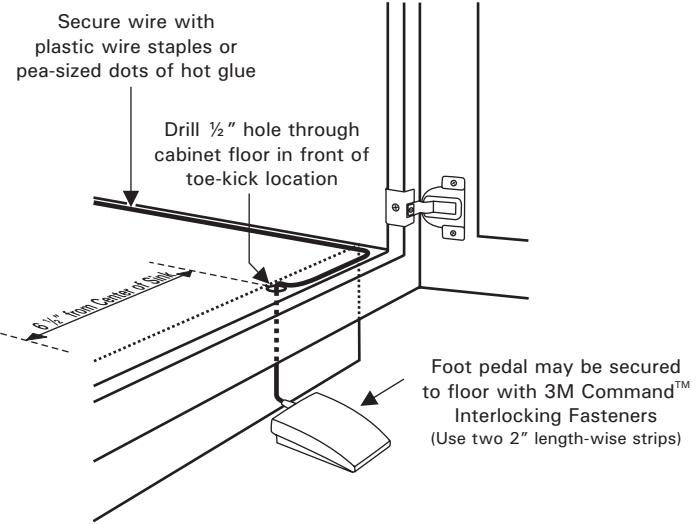

Figure 2A – Visible-Wire Foot Pedal Installation
Figures 2A and 2B illustrate two different options for routing the foot pedal wire to the control module. The two options are described below:
The visible-wire installation method is the easiest method for installing the foot pedal. You will only need to drill one hole through the cabinet floor (refer to Figure 2A). Follow these steps to complete the installation:
- ① Drill a 1/2" hole through the cabinet floor as illustrated in Figure 2A. This hole must be in front of the toe-kick.
- ② Route the foot pedal wire through the hole.
- ③ Secure the wire in place with plastic wire staples (included) or pea-sized dots of hot glue.
- ① Drill a 1/2" hole through the cabinet floor as shown in Figure 2A. This hole must be behind the toe-kick.
- ② Drill a second 1/2" hole through the toe-kick as shown in Figure 2A.
- ③ Route the "fish-wire" through both holes.
- ④ Attach the metal part of the foot pedal connector to the "fish-wire" with tape.
- ⑤ Using the "fish-wire," pull the foot pedal wire through the two holes.
- ⑥ Secure the wire in place with plastic wire staples (included) or pea-sized dots of hot glue.